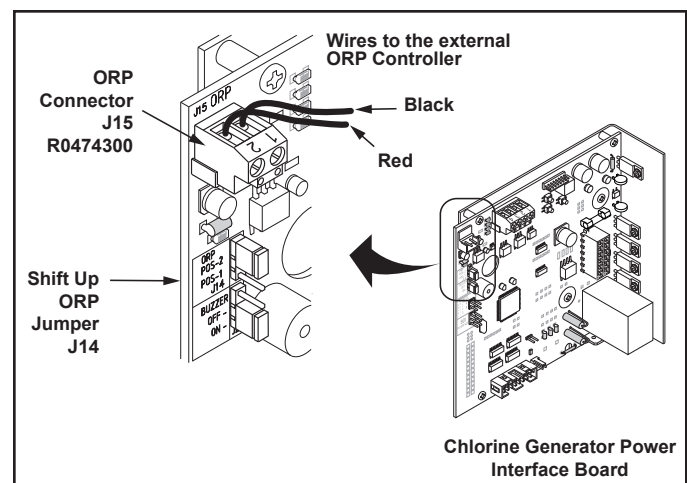

Figure 6. ORP Connection
To connect the TruDose Chemical Controller to a Jandy saltwater chlorinator, you will need to connect the preinstalled 24VDC cable from the TruDose Chemical Controller to the Power Interface Board (PIB) in the saltwater chlorinator power pack. The ORP Jumper on the Saltwater Chlorinator power pack PIB board will need to be moved to Position 2. See Figure 6 for instructions how to move the ORP Jumper to Position 2 on the power pack PIB.
2. Move the ORP Jumper from the two bottom pins to the two top pins. See Figure 6.
3. Connect the TruDose 24VDC cable to the dedicated 2-pin connector J15 on the AquaPure power center PIB. See Figure 6.